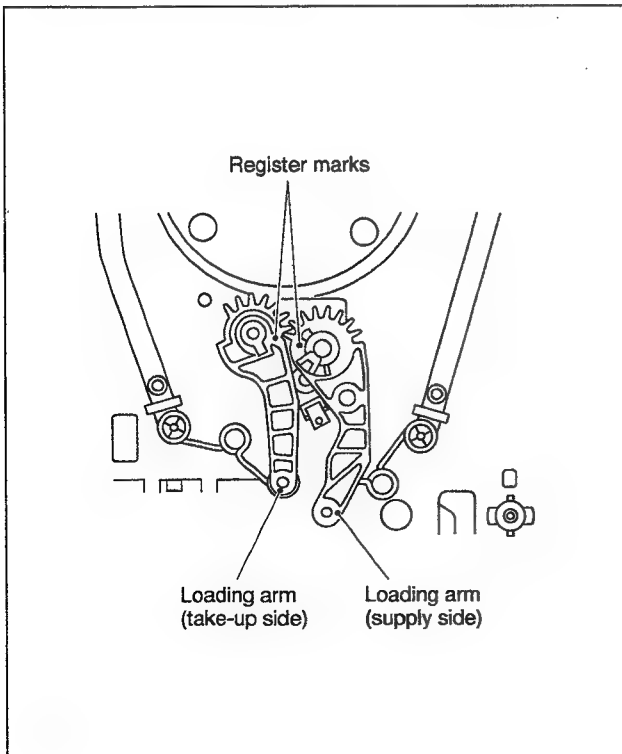

Fig. 2-3-1
- (1) Return the pole base assembly to the foremost position in the unloading direction.
- (2) Install the loading arm assembly so that the register mark on the gear of the supply side loading arm is in alignment with the one on the take-up side loading arm as indicated in Fig. 2-3-1.